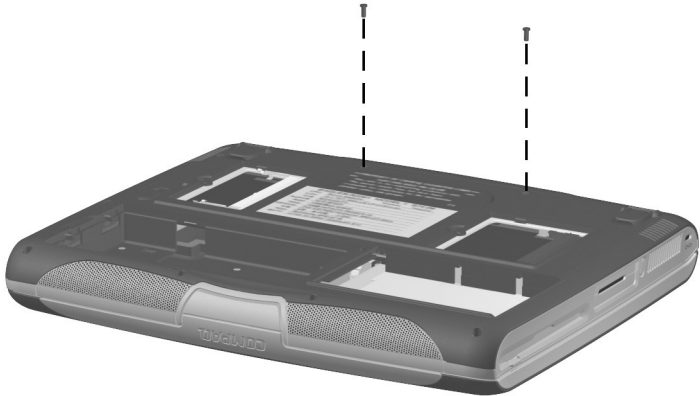

Figure 5-15. Removing the LED Cover Screws
3. Remove the two pewter TM2.0 × 7.5 screws that secure the LED cover to the base enclosure (Figure 5-15).